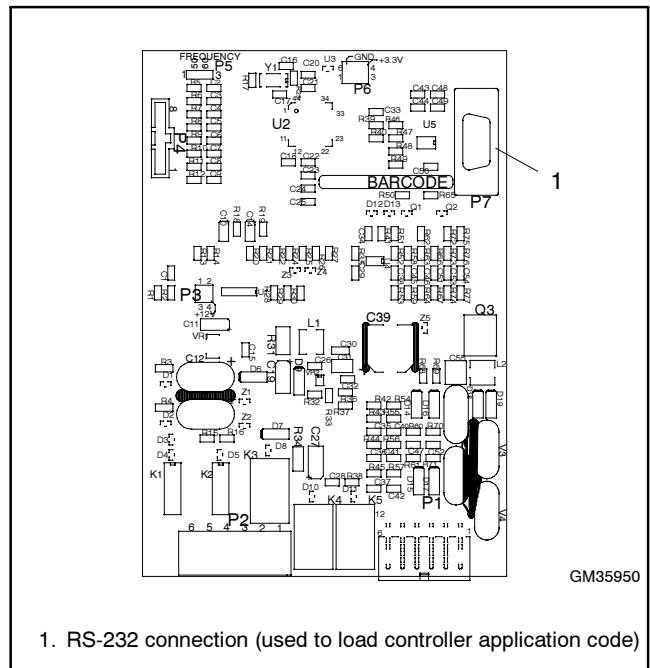

Figure 22 Series 500 ATS Controller RS-232 Connection
6. Connect one end of the null modem cable to the controller at the RS-232 connector. See Figure 22. Tighten the thumb screws on the connector to hold it securely in place.